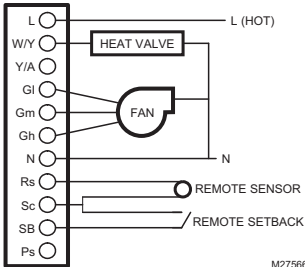

Fig. 7. Two pipes Heat-only wiring diagram
- TB6575A1016, TB6575B1000 and TB6575C1016 fan coil thermostats, which are 120/240/277 Vac powered. Refer to Fig. 7–Fig. 13, beginning on page 8.